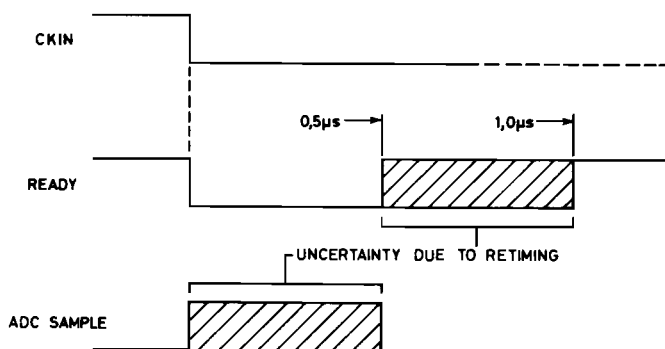

Fig. 3.3 External Clock Handshake Timing
- c) External Clock Input - TTL input, negative edge activated which will be rephased by the internal clock, there will be an uncertainty of  $\pm 0.25\mu\text{sec}$  after rephasing. See Fig. 3.3
- d) Ready - TTL output which goes LO when clock edge (c) is received. Signal goes H1 to indicate ready for next clock signals (c) and (d) provide a two wire handshake. Note that for external clock frequencies much less than 1MHz, the response time of the instrument is such that READY need not be tested. See Fig. 3.3